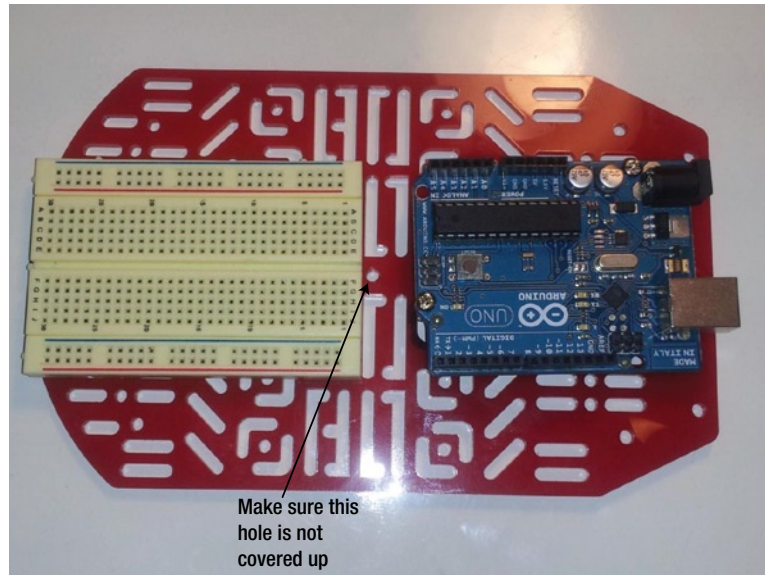

Figure 31-7. Attach breadboard to the top plate of the chassis
6. Attach the solderless breadboard to the top plate of the chassis (you will notice that the breadboard has an adhesive bottom). Figure 31-7 illustrates this process. Make certain that the breadboard does not cover the small hole in the center of the top plate because you may need to use that hole later.
Caution It is important to note the orientation of the breadboard; make sure you have it as Figure 31-7 illustrates. As you build the project, you will notice the images are mirrored. That mirroring is not a problem. Just keep following the instructions.